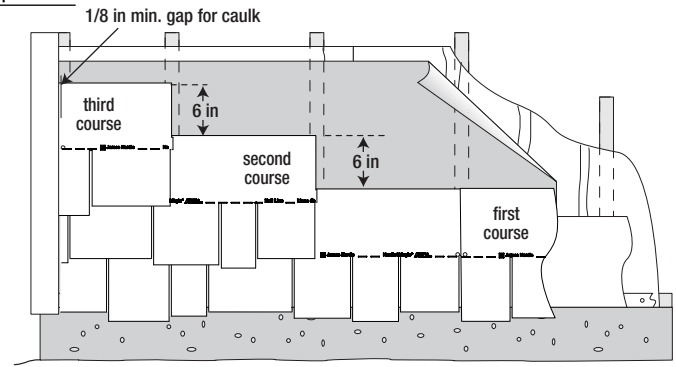

**Figure 22**
Install HardieShingle® panels with joints butted in moderate contact. Due to overlapping of the joints, caulk is not required except where panels abut trim boards. (fig. 22 & 24). Ensure keyways do not line up on subsequent courses.
- 2) Place first panel so that panel end centers over stud. Trim panel as needed. Butt the cut end into trim as shown (figs 22 & 24). When installing over a band board or any horizontal surface, leave 1/4 in gap between bottom of siding and flashing.
- 4) Start the second course, by removing the equivalent of one full stud cavity (16 in or 24 in OC), again abutting the cut end into the trim (figs 22 & 24). This is to prevent pattern repetition. Repeat step 3.
- 5) Start the third course, by removing the equivalent of two full stud cavities (figs 22 & 24) and repeat step 3.
Panels for sidewall applications are available in 48 in lengths. Pieces needed for one square (100sq.ft.) of product coverage = approximately 50, based on a maximum 6 in exposure from the top edge of HardieShingle panels in subsequent courses (refer to Figure 22).